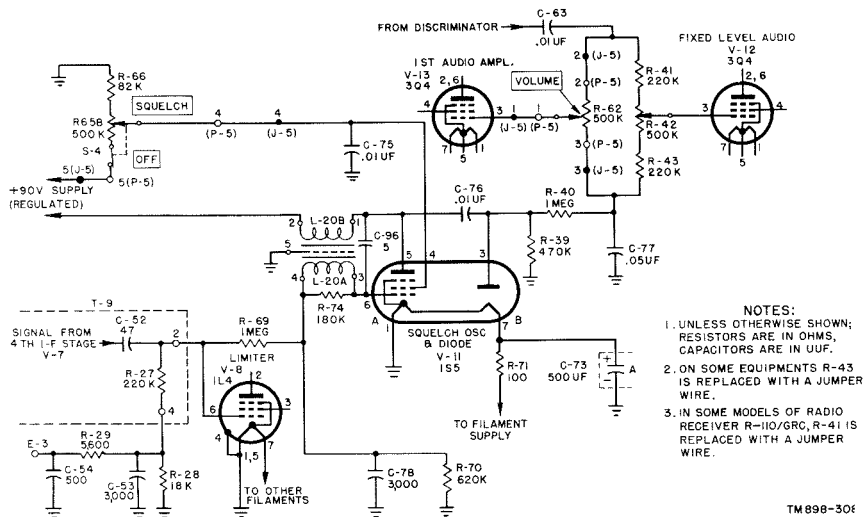

Figure 21. Radio Receiver R-110/GRC, squelch circuit.
c. In Radio Receiver R-110/GRC only (fig. 21), the grid circuit of the squelch oscillator extends through L20A to the junction of resistors R69 and R70; this shunts V8 grid resistors R27 and R28. Thus any voltages developed in the grid circuit of V8 are also developed across R69 and R70. The portion across R70 is applied to the grid of V11 and thus determines its operation.
- (2) The other factor affecting the output of the oscillator is the bias voltage applied to its grid circuit. The greater the negative bias, the lower the amplitude of oscillator output. The magnitude of the bias voltage is a function of the gain of the receiver under the particular condition of operation. The magnitude of the bias voltage also is a function of the relative limiting characteristics of V7 and V8. Limiter operation is described in paragraph 17. When no signal enters the receiver, the noise voltage is amplified by the full gain of the receiver. Because the noise level is relatively low at the grids of V7 and V8, very little grid current flows, and the bias voltage applied to the squelch oscillator is small. This means that the oscillator is operative at low squelch control settings, and it biases the audio amplifier tubes to cutoff. When a threshold signal enters, the limiter grid current rises, and the bias applied to the squelch oscillator is sufficient to cause oscillations to cease. When stronger signals enter the receiver, V7 and V8 grid current increases still further and both tubes start limiting. This increased negative voltage also keeps the squelch oscillator from operating. For any setting of the SQUELCH potentiometer, a certain minimum level of signal is required to produce a bias voltage at the grids of V7 and V8 large enough to disable the squelch oscillator.
f. Radio Receiver R-110/GRC does not use the bias developed in the grid circuit of V7 for operation of the squelch oscillator (fig. 21).